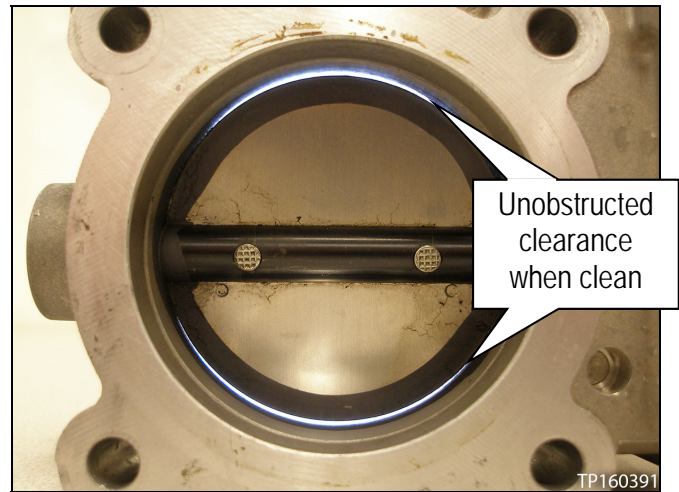

Figure 5
3. The cleaning is complete when unobstructed clearance is seen between the throttle valve and chamber (see Figure 5).